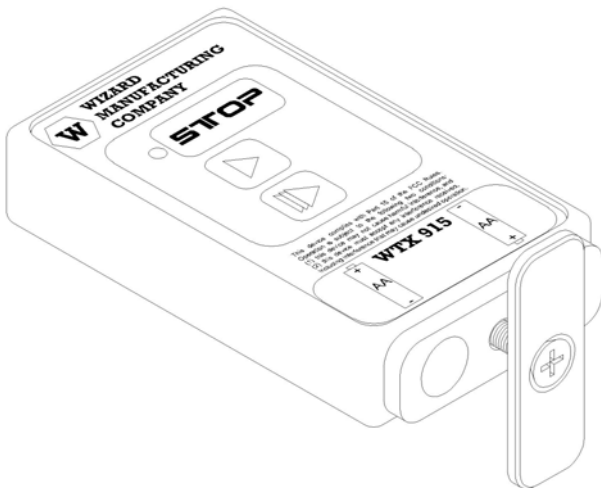

Figure 2
2. Rotate the Battery Cover Plate to gain access to the battery compartments (see Figure 2 below).